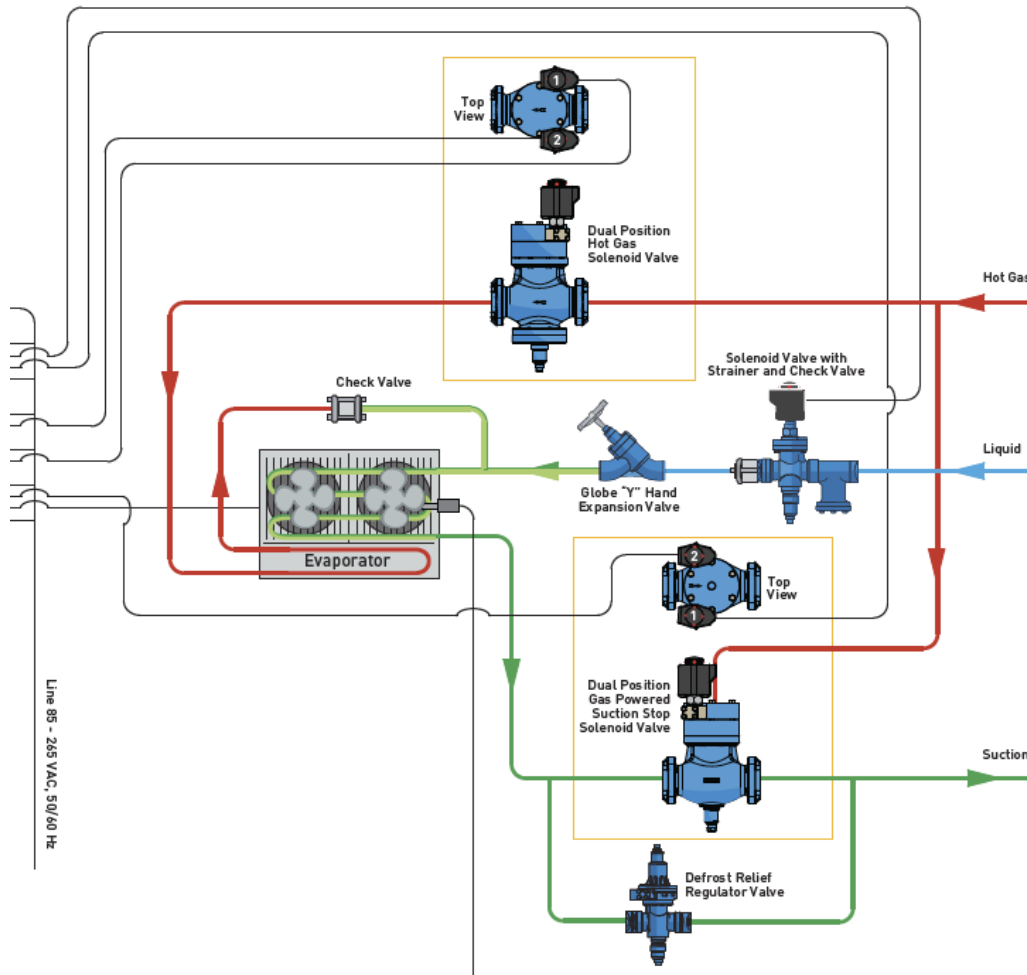

Figure Q3-1. (A)
- (a) Refer to figure Q3-1. (A) Below write down the sequence of operation and time taken to complete each process.